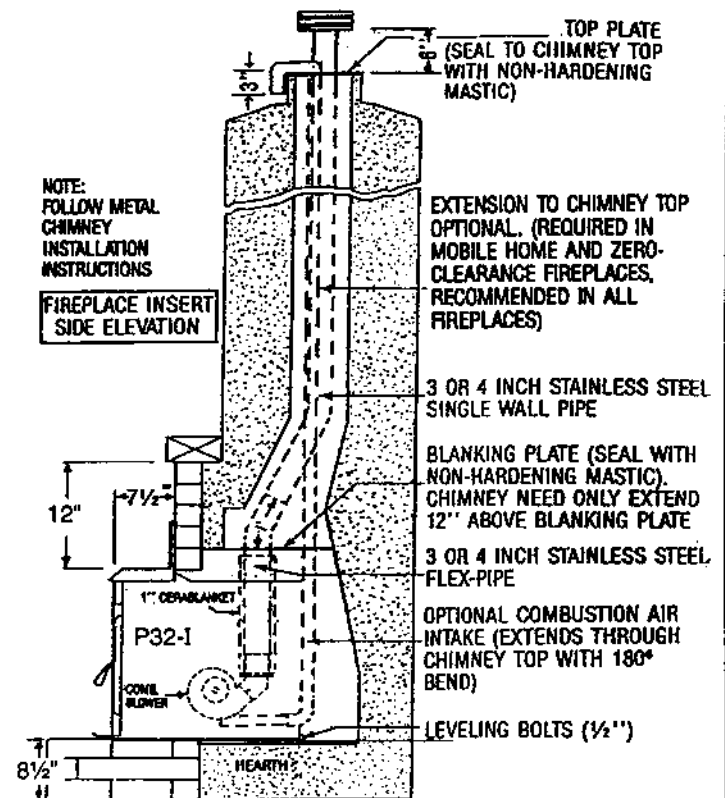

Figure 9
3. Top of chimney (see figure 9). All factory built fireplaces requiring outside air must use this method unless outside air is already provided.